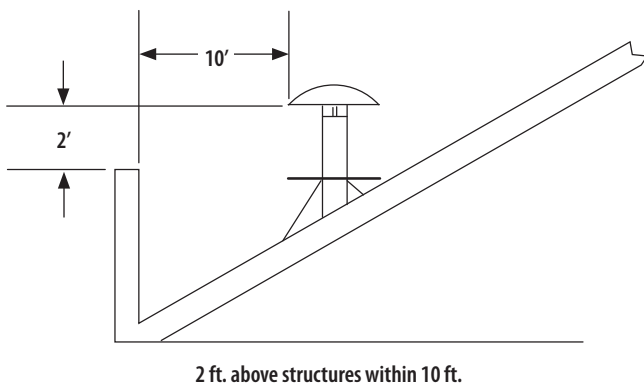

Figure 2- Vertical Installation Requirements
1. The vent system must terminate at least 3 feet above the roof line and at least 2 feet higher than any portion of the building within 10 feet. See **Figure 2**. This limitation can be removed if an engineering analysis demonstrates normal and safe operation of appliance.